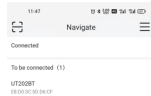

Figure 14
- Short press the button  to turn on UT202BT Bluetooth, if UT202BT fails to connect with the APP, the Bluetooth symbol on the LCD will flash. Tap "iDMM2.0" icon on mobile phone to enter Navigate interface, "iDMM2.0" will search UT202BT Bluetooth automatically, after the model "UT202BT" is displayed in the list (Figure 14), please select "UT202BT" to connect. The other way to connect is to scan the QR code on UT202BT. After the connection is completed, the Bluetooth symbol on LCD will be displayed constantly, data communication, measurement value display, button control and other operations can be achieved between iDMM2.0 and UT202BT.